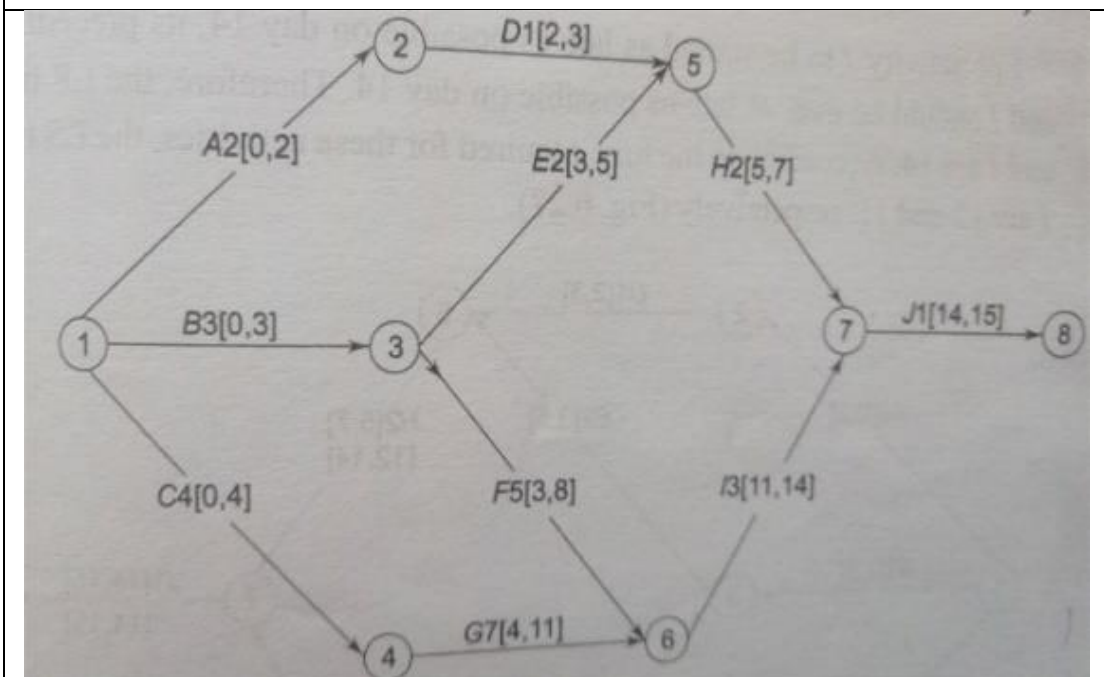

Figure 11
Step 4 : Path 7 to 8 can be completed in 1 unit of time therefore, the earliest start time for this path is 11th week and earliest finish time is 12th week (refer figure 11).